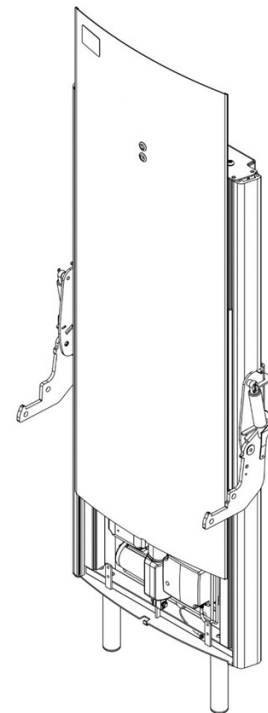

Fig 12.1e
- The front cover can now be lifted out vertically in the direction shown in Fig 12.1e, and set aside. This will be refitted at the end of the installation.